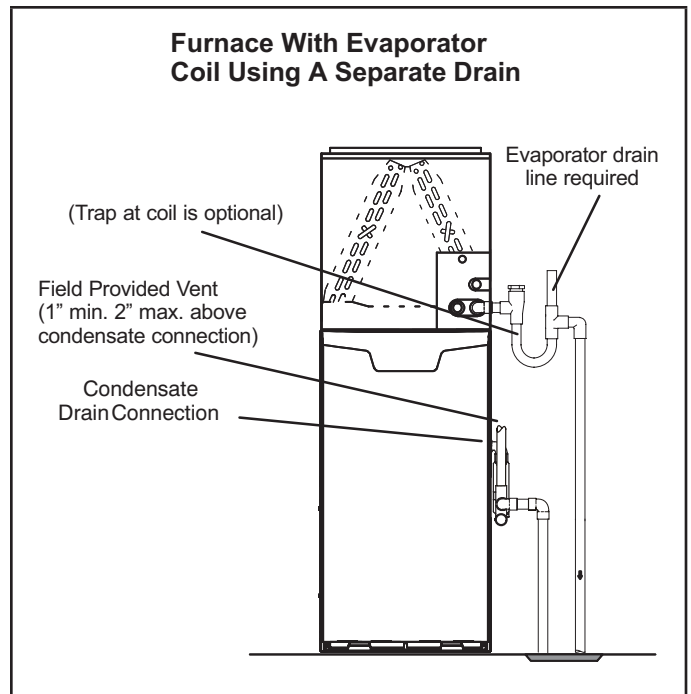
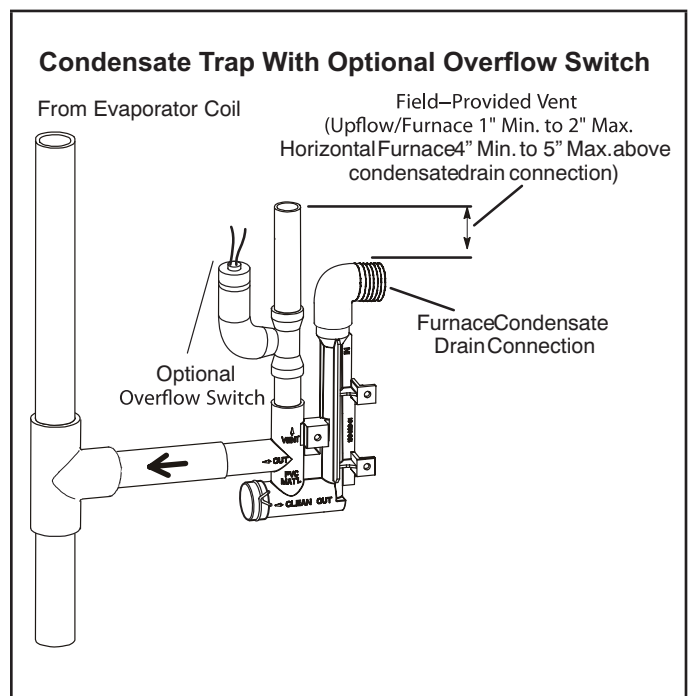
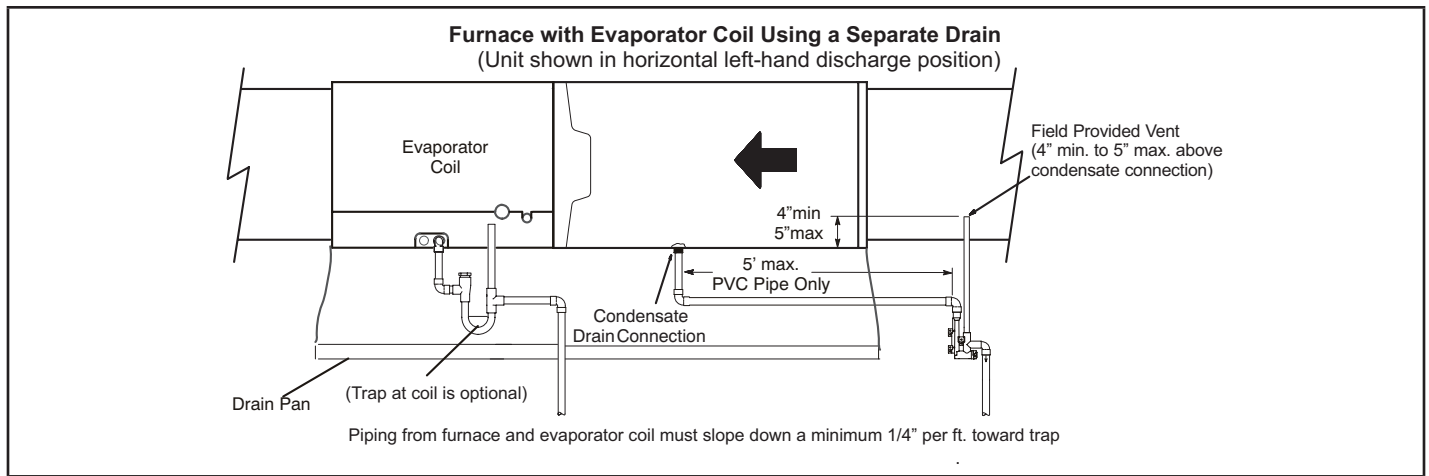
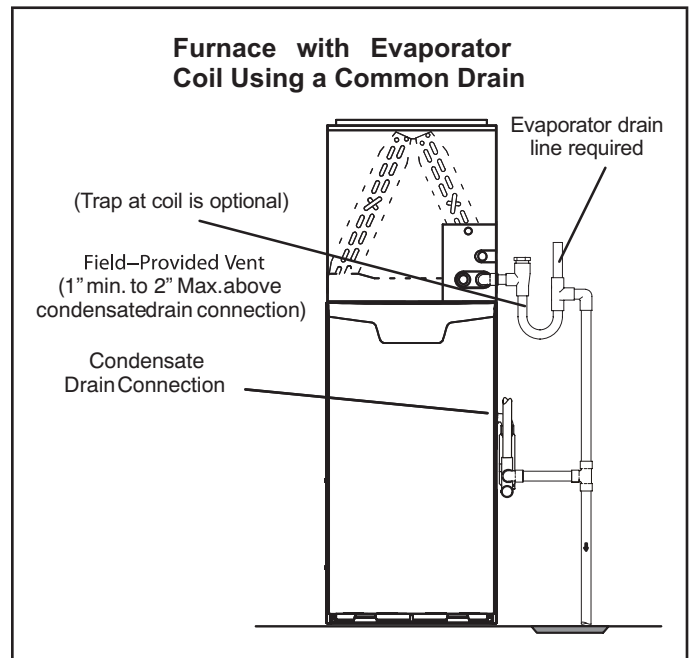

FIGURE 42
FIGURE 43
FIGURE 44
FIGURE 45
- 5 - FIGURE 42 and FIGURE 44 shows the furnace and evaporator coil using a separate drain. If necessary the condensate line from the furnace and evaporator coil can drain together. See FIGURE 43, FIGURE 45 and FIGURE 46. **Upflow furnace** (FIGURE 45) - In upflow furnace applications the field provided vent must be a minimum 1" to a maximum 2" length above the condensate drain outlet connection. Any length above 2" may result in a flooded heat exchanger if the combined primary drain line were to become restricted. **Horizontal furnace** (FIGURE 46) - In horizontal furnace applications the field provided vent must be a minimum 4" to a maximum 5" length above the condensate drain outlet connection. Any length above 5" may result in a flooded heat exchanger if the combined primary drain line were to become restricted.